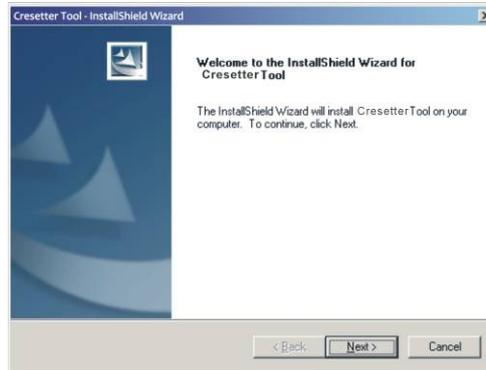

Figure 5-4
3. Choose Destination Location and click "Next", as shown in Figure 5-4: